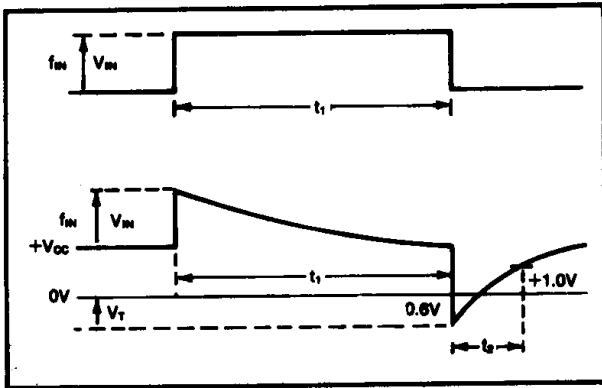

FIGURE 2. F/V Input Waveforms.
**Input Characteristics:** VFC42 and VFC52 can be connected as frequency-to-voltage converters as shown in Connection Diagram.  $f_{\text{IN}}$  should be a positive pulse train with minimum pulse width of  $1.0\mu\text{sec}$  and rise and fall times of  $\leq 300\text{nsec}$ . The input train ( $f_{\text{IN}}$ ) is differential and applied to the input of the comparator (pin 10) (see Figure 2). Threshold voltage of the comparator lies between  $-0.6$  and  $+1.0\text{V}$ . When comparator input is less than  $-0.6\text{V}$  it triggers the one-shot.